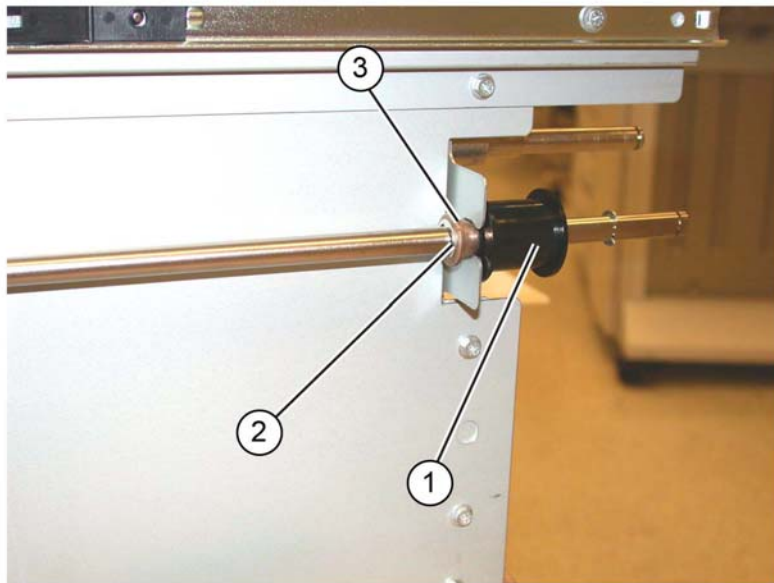

Figure 2 Tray cable pulley
3. Free movement of the tray cable pulley (1), Figure 2:
- a. Remove the E-ring (2).
- b. Slide the bushing (3) away from the frame.